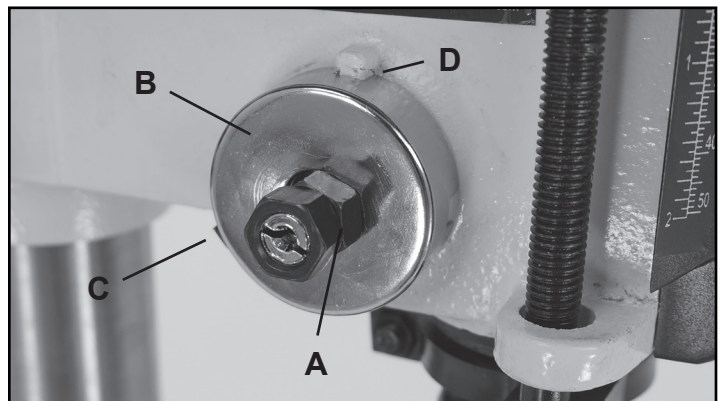

FIG. 10
10. **SPINDLE RETURN SPRING:** The Chuck will automatically return upward to its original starting position when the operating handle is released. The Return Spring Mechanism, FIG. 10, has been preset at the factory and should not require any adjustments. However, should the spring tension decline and need adjustment, follow these steps;